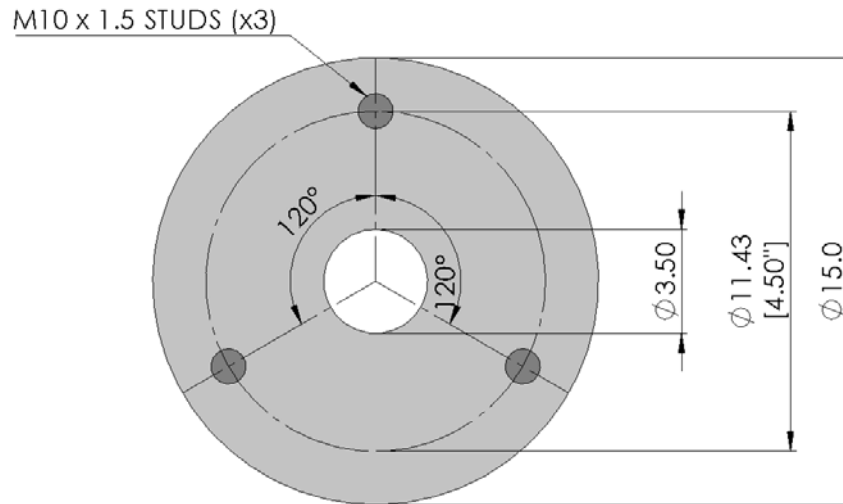

Figure 3. Base flange dimensions for turbine attachment to tunnel (dimensions in cm)
- The turbine base plate must be constructed of material no thicker than 16.1 millimeters. It should be designed and constructed with adequate tolerances to smoothly fit over three studs where it will be secured to the tunnel base flange with wingnuts. Figure 3 shows the bolt pattern and sizing of the flange and the dimension for the hole to allow cables and connectors to pass through.